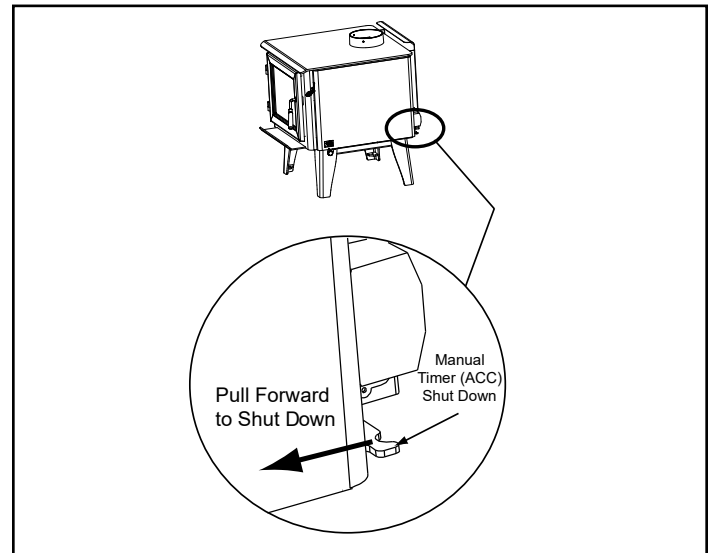

Figure 11.3
**Manual Timer Over-Ride:** If you need to shut the ACC system off before it goes through the cycle of shutting itself off 25 minutes, reach towards the back of the appliance on the right side and pull the lever towards the front of the appliance (Figure 11.3).